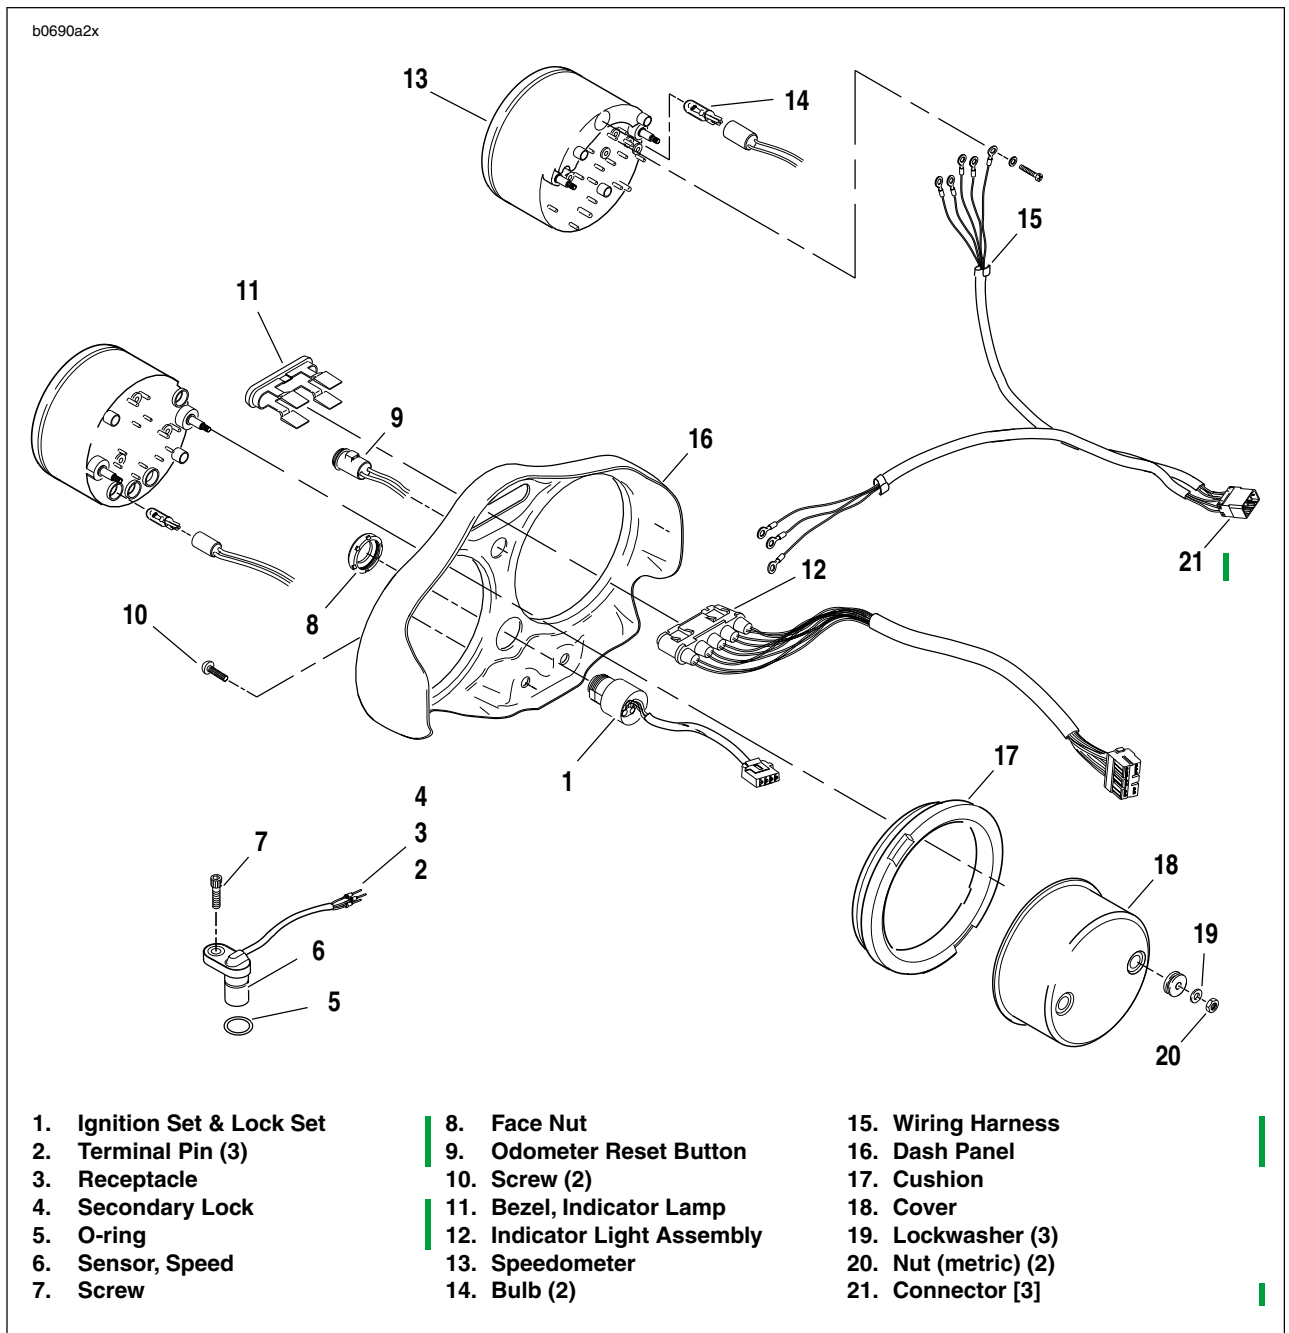

Figure 7-82. Speedometer Assembly
- a. See Figure 7-82. Install odometer reset button (1) from back side of dash panel.